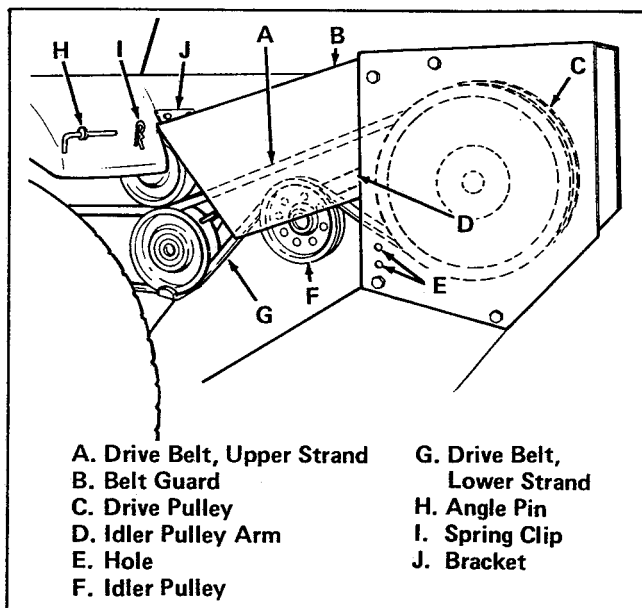

Figure 6. Install Drive Belt on Tiller
14. Pull drive belt fully rearward and around drive pulley (item C, figure 6). Check drive belt from end to end to be sure that it is not twisted.